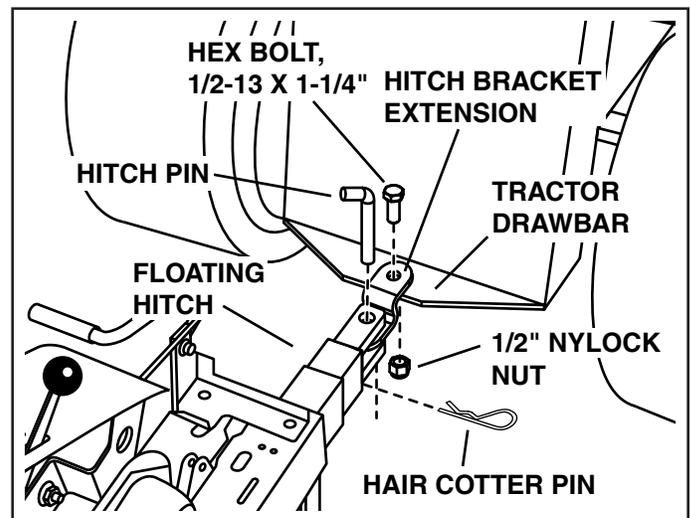

FIGURE 6
(See Figure 6)
**HITCH BRACKET EXTENSION CAN BE ATTACHED AS SHOWN IN FIGURE 6 OR TURNED UPSIDE DOWN FOR TRACTORS WITH LOWER DRAWBARS.**